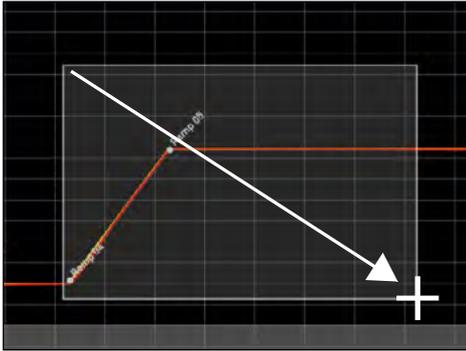

Fig. 8
▶ To zoom in on a certain section, click and drag with the left mouse button to draw a rectangle over the section you want to see (Fig. 8). If the selection is shown in red, the section is too small to be shown. In this case, make the rectangle larger until its colour changes to light grey.